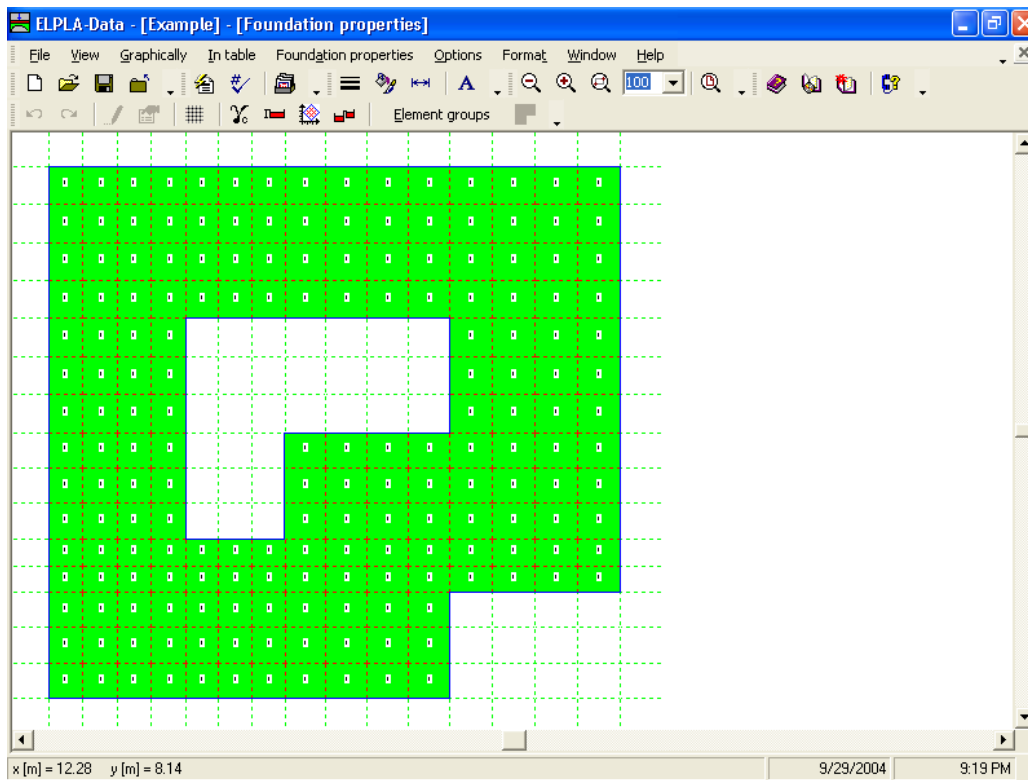
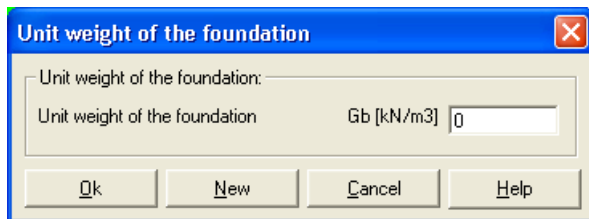
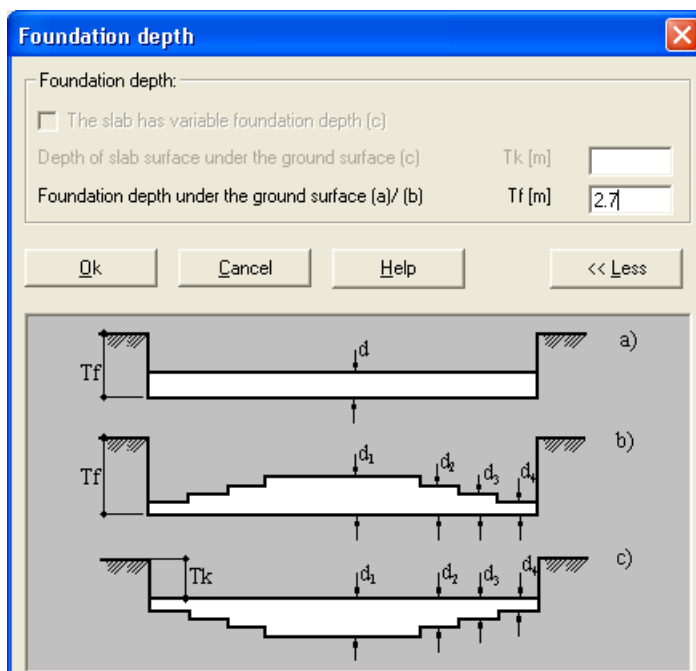

Bild 1-22 "Foundation properties" embedded program
Figure 1-24 "Unit weight of the foundation" dialog box
Figure 1-25 "Foundation depth" dialog box
To define the foundation properties, choose "Foundation properties" command from "Data" menu. The following embedded program in Figure 1-22 appears with default foundation properties. The data of foundation properties for the current example, which are required to be defined, are raft material, raft thickness and foundation depth. Any other data corresponding to foundation properties in the program menus are not required in this example. Therefore, the user can take these data from the default foundation properties.
To enter the unit weight of the raft, choose "Unit weight of the foundation" command from "Foundation properties" menu in the window of Figure 1-22. The following dialog box in Figure 1-24 with a default unit weight of 25 [kN/m³] appears. To neglect the self-weight of the raft in the analysis, type 0 in the "Unit weight of the foundation" edit box. Click "OK" button.
To enter the foundation depth under the ground surface, choose "Foundation depth" command from "Foundation properties" menu in the window of Figure 1-22. The following dialog box in Figure 1-25 appears to define the foundation depth under the ground surface. Type 2.7 in the "Foundation depth under the ground surface" edit box. Then click "OK" button.
- Choose "Save foundation properties" command from "File" menu in Figure 1-22 to save the foundation properties
- Choose "Close foundation properties" command from "File" menu in Figure 1-22 to close the "Foundation properties" embedded program and return to the main window of *ELPLA-Data*